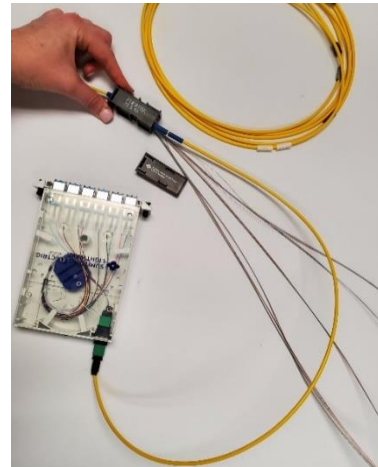

Figure 8
6.4 Place the black furcation tubing piece into the breakout unit kit housing. SRP F04-046 talks about specific placement in housing, but as long as the colored tubing or number labels are on, this housing placement is not critical. See Figure 8 for setup from stripped bundle inserted into a breakout kit housing leading into the ribbon bundle encased in a furcation tube, and finally MPO termination.